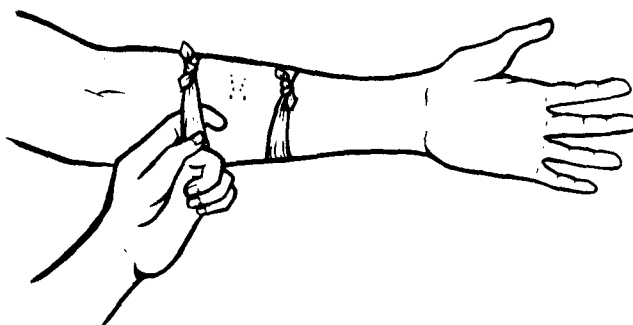

Figure 2-1. Constricting Band.
2. *If the bite is on an arm or leg, place a constricting band (narrow cravat [swathe], or narrow gauze bandage) (1) one to (2) two finger widths above and below the bite as in Figure 2-1. If the bite is on the hand or foot, place a single band above the wrist or ankle. The band should be tight enough to halt blood flow of blood near the skin, but not tight enough to interfere with circulation. In other words it should NOT have a tourniquet-like effect.*